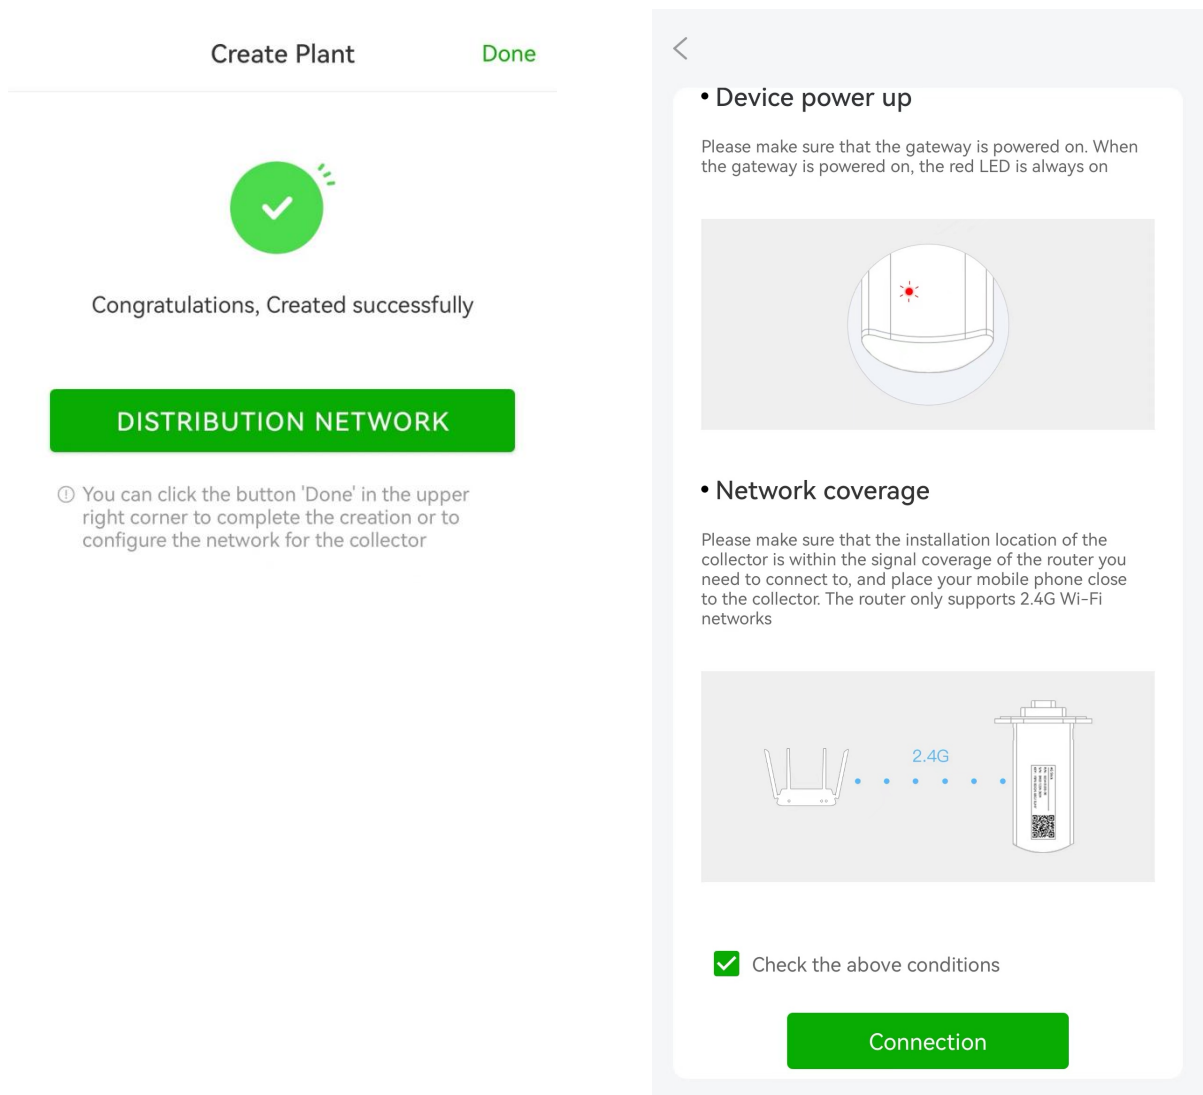

Figure 4-3 Create plant
8. Click "CREATE", and the APP is successfully created, as shown in Figure 4-3.